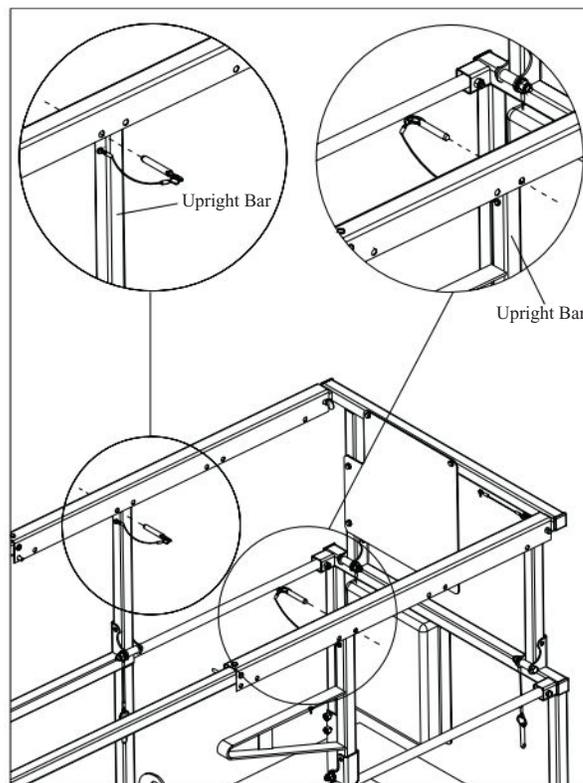

Figure 3-12. Variable Position Manual Extension Platform
- Upon extension or retraction, reinsert locking pins. Insert pin on one side of aerial platform in front of upright bar and the pin on the other side of aerial platform behind the upright bar to prevent accidental movement, in either direction, of manual extension platform during travel or transport. Refer to Figure 3-12 for a configuration example.